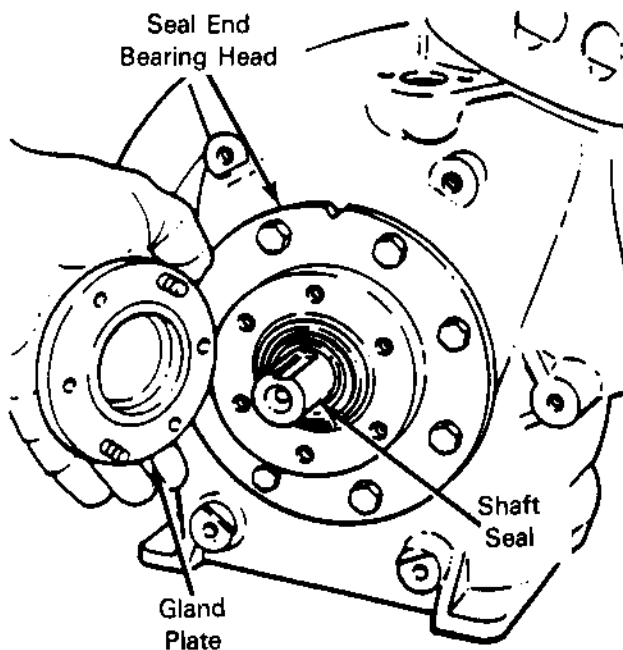

Figure 43 - Shaft Seal Positioned In Seal End Bearing Head
3. Hold the seal assembly and slide the seal assembly onto the crankshaft with the carbon washer toward the cover (Figure 43).